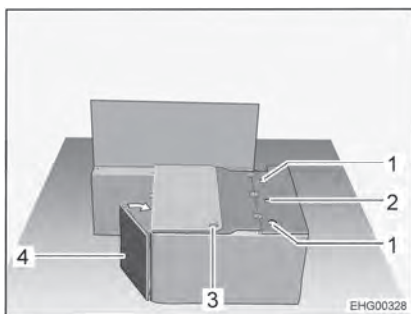

Fig. 21 During conversion
- Swing the bench seat panel (Fig. 21,4) towards the side wall.
- Route the safety belt with the seatbelt lock through the orifice (Fig. 21,3) in the bench seat cover.
- Insert the backrest of the attachable seat into the side holders (Fig. 21,1) and tighten the star knob screw on the centre holder (Fig. 21,2) by hand.